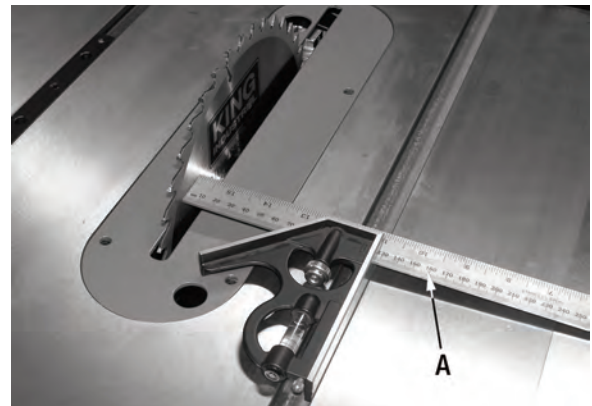

FIGURE 17
The table T-slot must be aligned parallel with the blade. Using a combination square (A) Fig.17, measure the distance from the back edge of the blade to the table T-slot. Pivot blade forward 180° and remeasure the distance using the exact same point on the blade. The difference between both measurements must be equal to or less than 1/64".